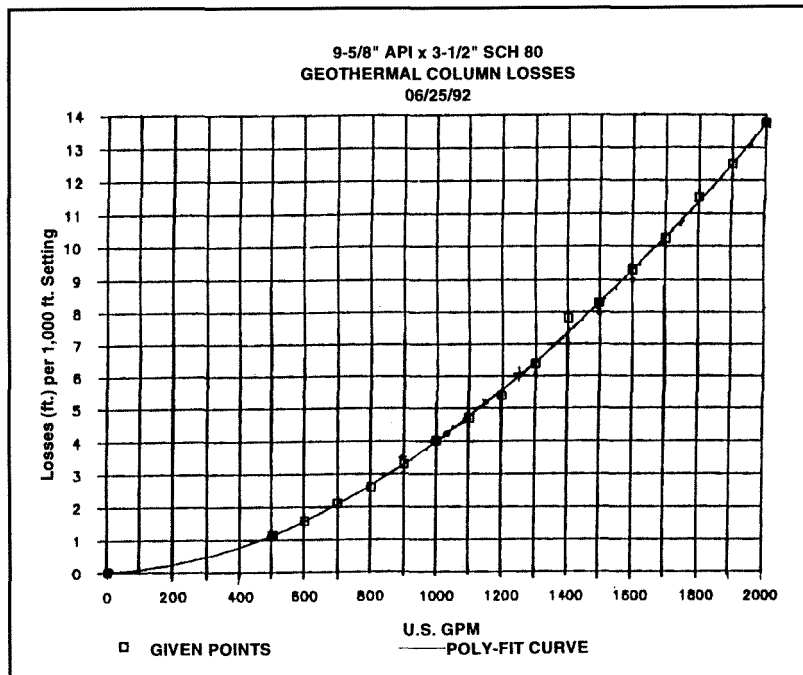

Figure 2. Column friction losses chart—9-5/8 inches API x 3-1/2 inch SCH 80.
includes head to overcome column friction losses (fluid moving up through, typically, 9-5/8" API pipe with 3-1/2" SCH 80 lube string) as determined by setting. See Figure 2 chart for column friction losses. TBH=the head per stage at a given flowrate multiplied by the number of stages. TBH@GPM (as well as corresponding bowl efficiency and bowl BHP) are/should be factory test lab values.
- c.) Friction losses (in ft.) in piping from pump/well to end of system. These losses increase along with flowrate. NOTE: Column friction losses are **not** a consideration here as they are losses internal to the pump (must be compensated for by manufacturer) and not losses of the system. See Figure 2.